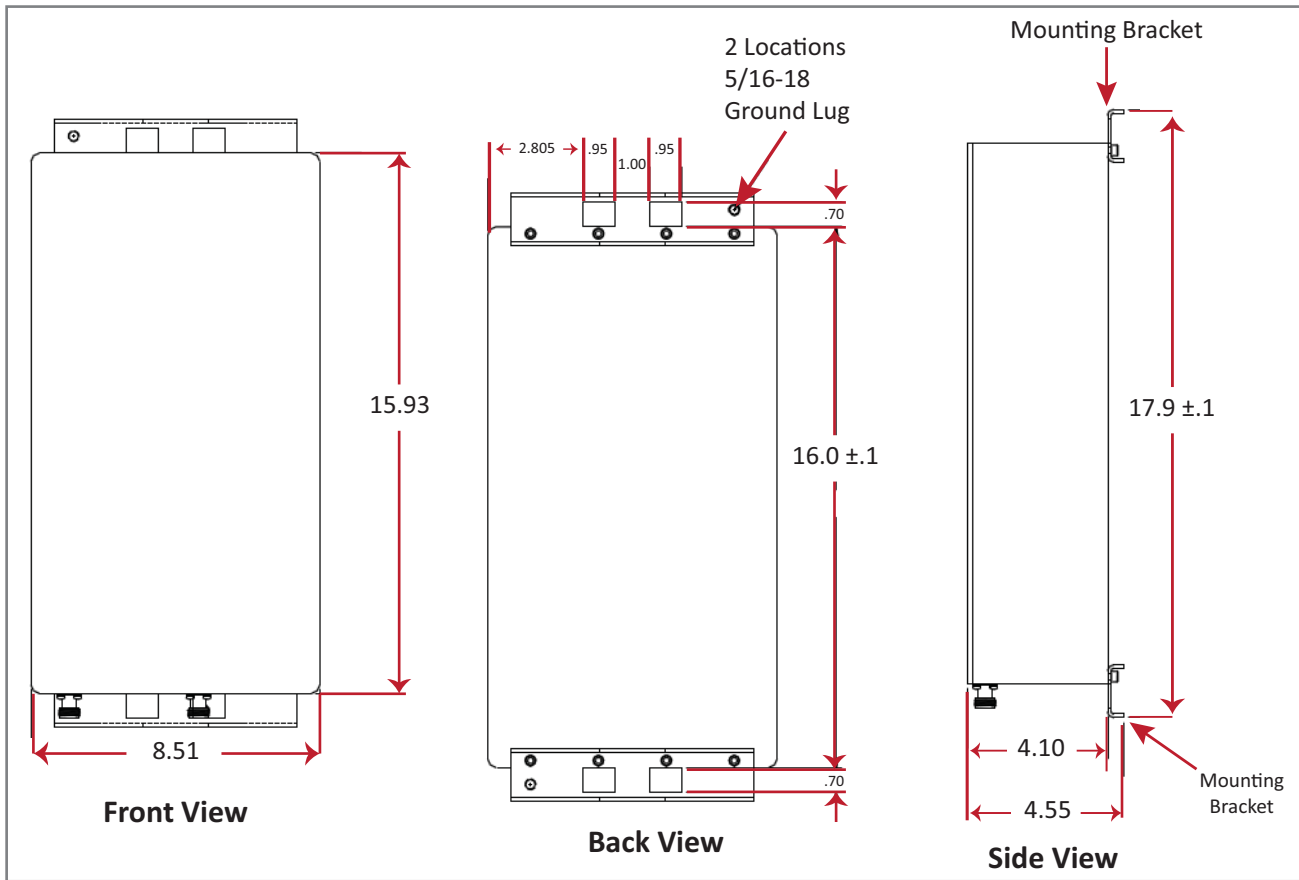
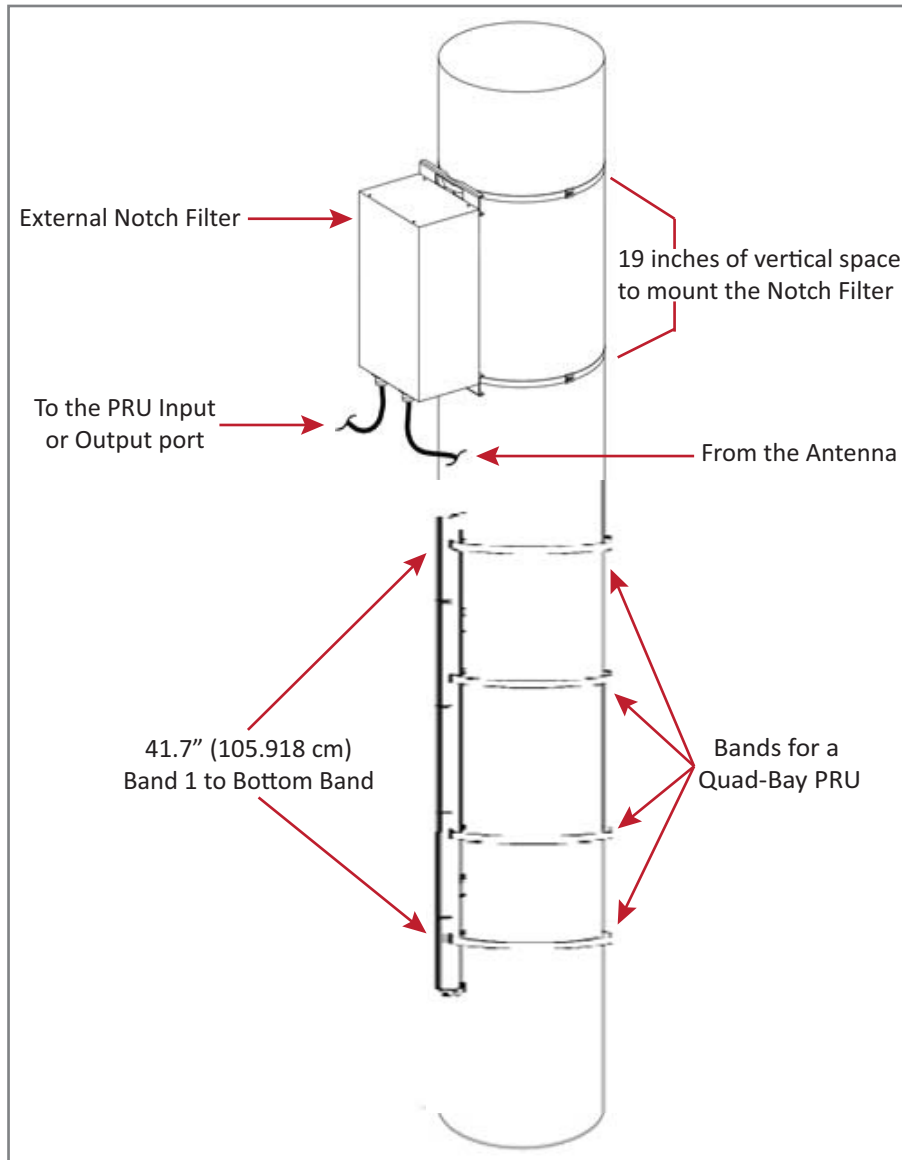

Figure 35. Notch Filter Mounting Dimensions
Figure 36. Pole Mounting a Quad-Bay PRU with a Notch Filter
- The Notch Filter and its mounting brackets requires 19 inches of vertical space above the PRU (see Figure 35 on page 115 and Figure 36 on page 116).
Figure 35 provides the dimensions required to create a mounting template. (For full technical specifications, see Table 27 on page 122.)
Figure 36 provides an example of how the dimensions required to mount the Notch Filter with a Quad-Bay PRU.